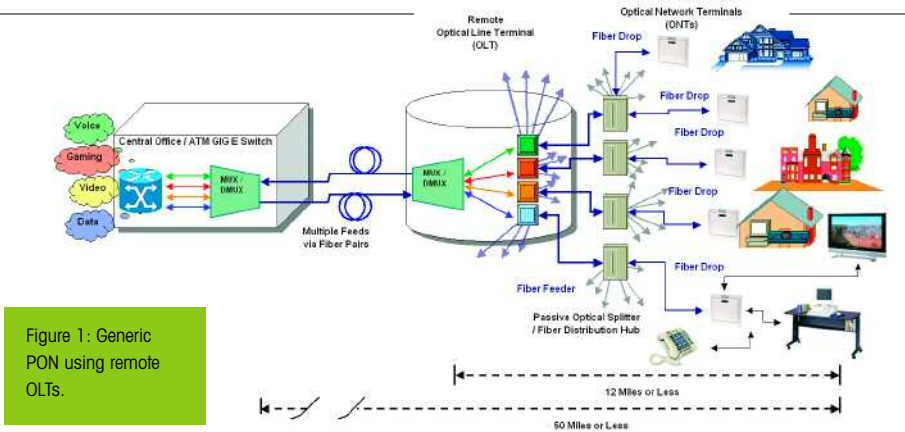

Figure 1: Generic PON using remote OLTs.
As telecom FTTH deployment extends into less densely populated areas, it becomes essential to upgrade telecom access networks between the central office (CO) and the subscribers. The typical PON architecture depicted in Figure 1 uses an optical platform, traditionally located in the CO, known as an Optical Line Terminal (OLT) to transmit traffic to approximately 16 to 32
Although the diagram of Figure 1 shows an FTTH access network where a pair of fibers serves each remote OLT, bidirectional single fiber PON architectures are also common. Distance from the CO to the furthest ONT normally lies in the range between 12 miles and 60 miles. The fiber distribution points contain passive splitters / combiners that connect the fiber lines among approximately 32 drop points